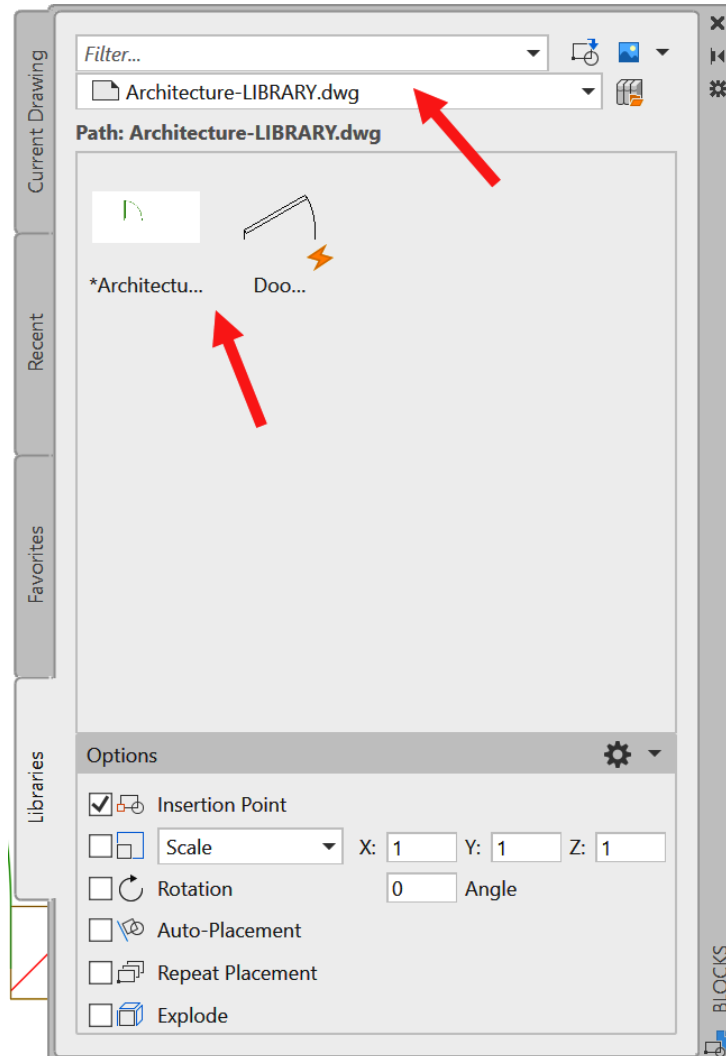

Figure 9.23: The block library drawing now added to the Blocks palette
- After a slight pause as AutoCAD locates your block library drawing, you will see that `Architecture-LIBRARY.dwg` has been added to the library list, displaying two icons: one icon is to use the whole drawing as a block (left), and the other icon represents the **Door** – **Metric** dynamic block with the lightning symbol, as shown in *Figure 9.23*. As you add more blocks to the `Architecture-LIBRARY.dwg` file, this view in the **Blocks** palette will update each time the **Blocks** palette is used.